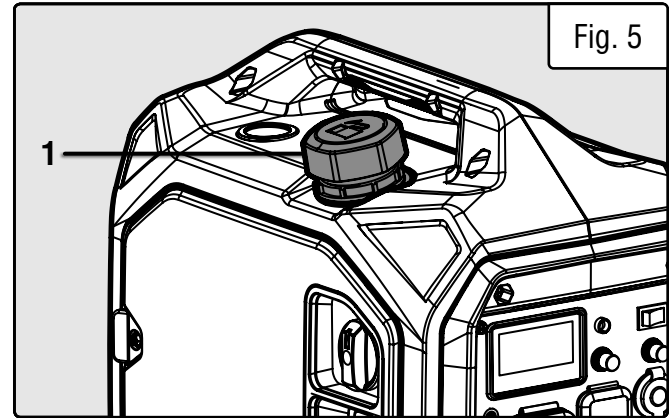

Fig. 5
2. Unscrew the fuel cap (Fig. 5 - 1) and set it aside. The fuel cap may be tight and hard to unscrew.